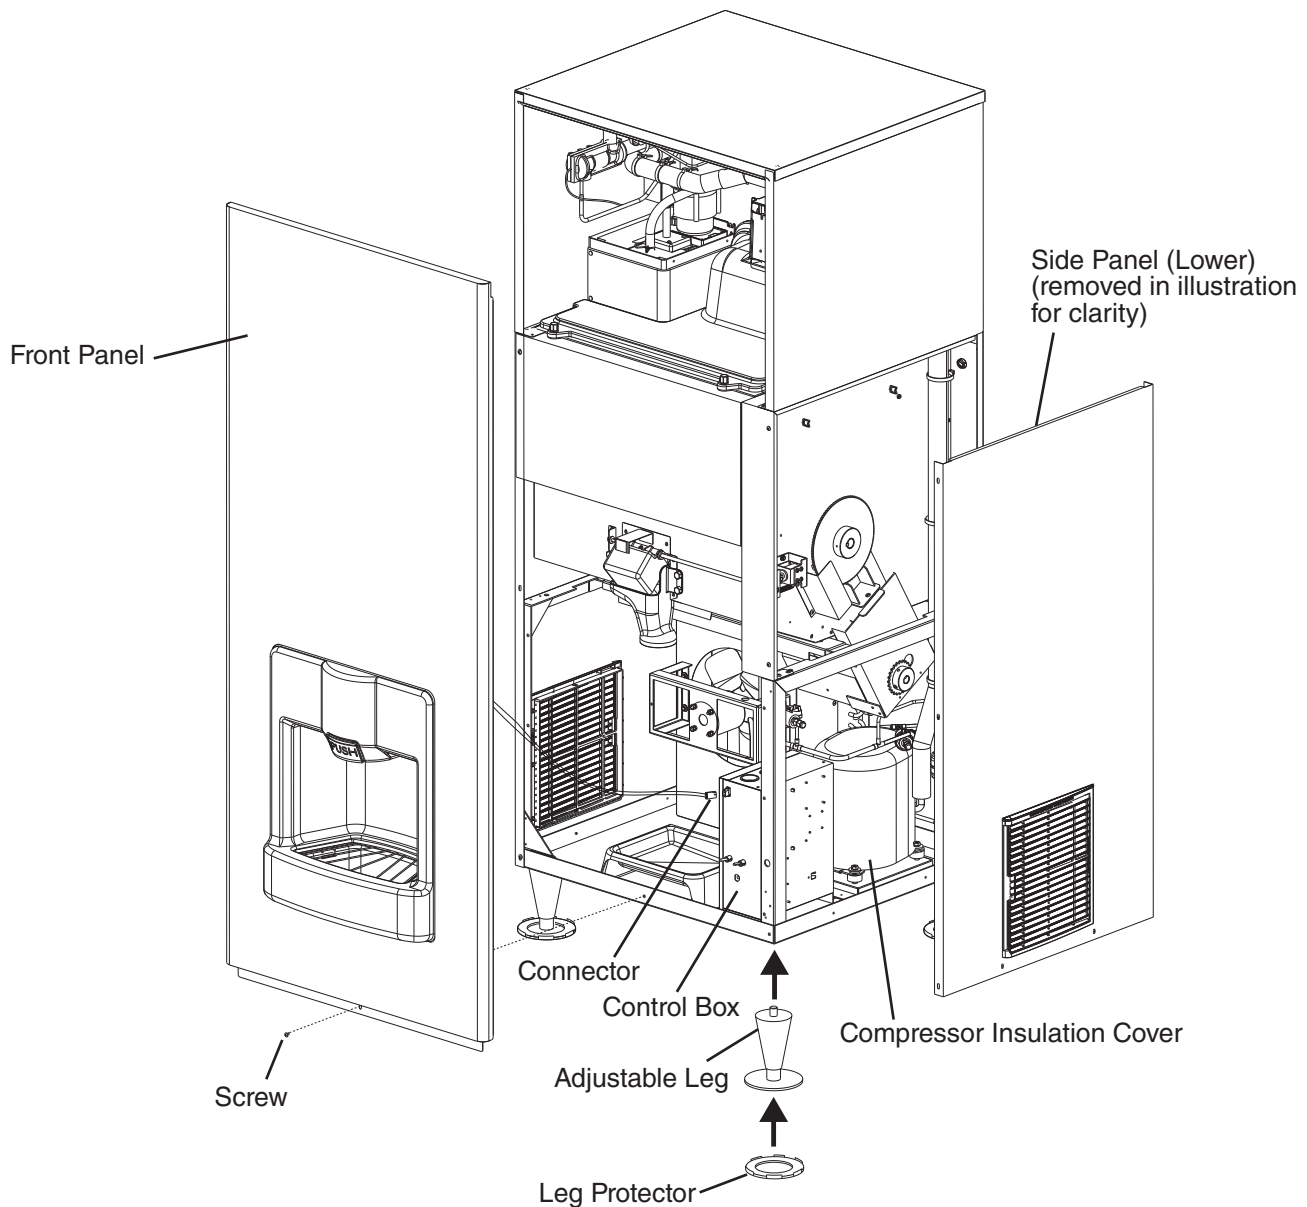

Fig. 2
- 1) Install the leg protectors to the 4 adjustable legs, then attach the legs to the bottom of the icemaker. See Fig. 2.